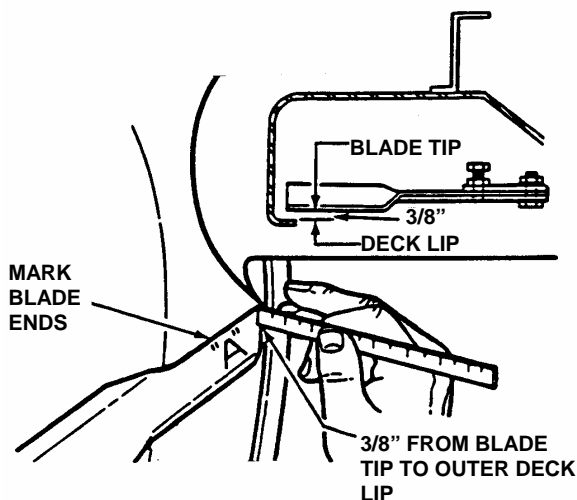

FIGURE 4.6
8. Measure the distance between deck lip and blade tip. NOTE: On 33" decks, the measurement between the blade tip and deck lip should be $\frac{3}{8}$ ". See Figure 4.6.